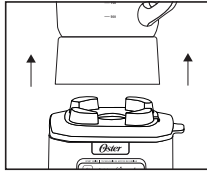

Fig. 19
1. Lift the jar straight up from the base, remove the lid and empty the jar. (Fig. 19)